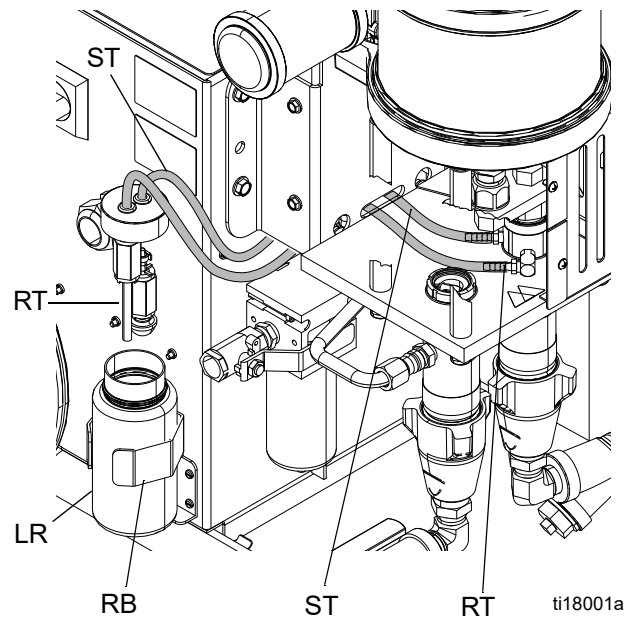

FIG. 15: Pump Lubrication System
2. Lift the lubricant reservoir (LR) out of the bracket (RB) and remove the container from the cap. Holding the cap over a suitable container, remove the check valve and allow the lubricant to drain. Reattach the check valve to the inlet hose (ST). See FIG. 15.